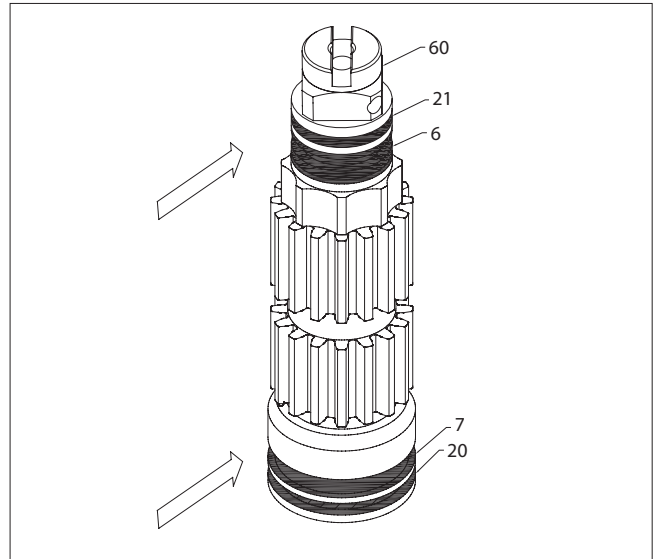
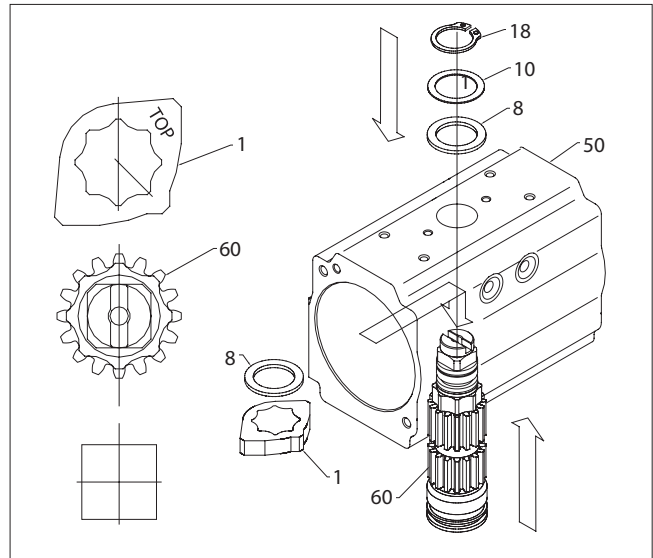
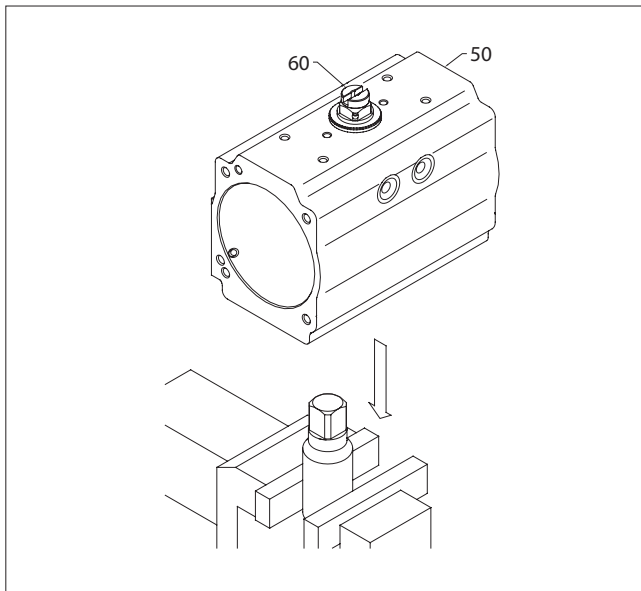

Figure 8.
Figure 9.
Figure 10.
### 1. Drive Shaft (60) Assembly, (Figures 8 & 9):
- A. Install the top and bottom shaft bearings (6, 7) and o-rings (21, 22) onto the shaft (60).
- C. Partially Insert the shaft (60) into the body (50). Install the octi-cam (1) onto the shaft in the orientation shown in (Figure 9). The edges of the octi-cam (1) should align with the edges of the square in the bottom of the shaft (60). Insert the internal thrust bearing (8) over the octi-cam (1). Fully insert the shaft into the body (50).
- D. Install the external thrust bearing (8), thrust washer (10), and the spring clip (18).
### 2. Piston (40) Assembly, (Figures 10 through 13):
- A. Install the piston o-ring seal (16) and the piston head (15) and piston back (5) bearings.
- B. Apply grease to the internal bore of the body (50) using a recommended o-ring area grease listed in (Table 2). Apply grease to the piston (40) rack teeth using a recommended general purpose grease listed in (Table 2).
- C. Hold the body (50) in a horizontal position by inserting the top of the shaft in a vice, or inserting the bottom of the shaft connection into a male drive fitted into a vice as shown by (Figure 10).
IF THE SERIAL NUMBER OF THE ACTUATOR IS 10136023 OR LOWER THEN THE ACTUATOR MUST BE DISASSEMBLED AND THE OCTI-CAM (1) MUST BE ROTATED, SEE **FIGURE 9**, BEFORE INSTALLING THE SAFETY LOCKOUT KIT.